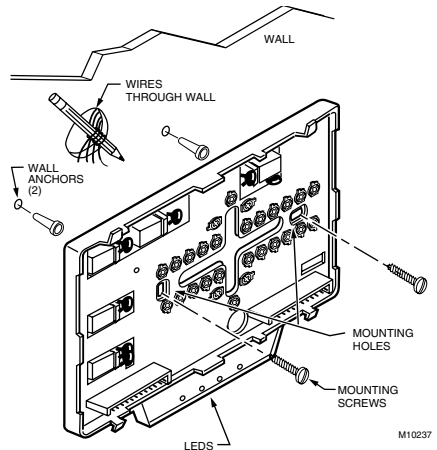

Fig. 7. Mounting the subbase.
- 2 Use a pencil to mark the mounting holes. See Fig. 7.